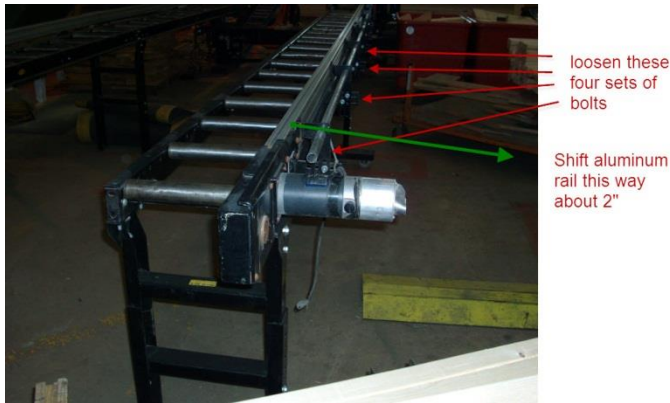

Fig 3.
6. Loosen the bolts on the 4 closest brackets to the motor this will allow you to push the aluminum fence away from the conveyors and get underneath the slider to remove the bolts for the belt clamp/clamps and the cable. (Fig 3 and 4)